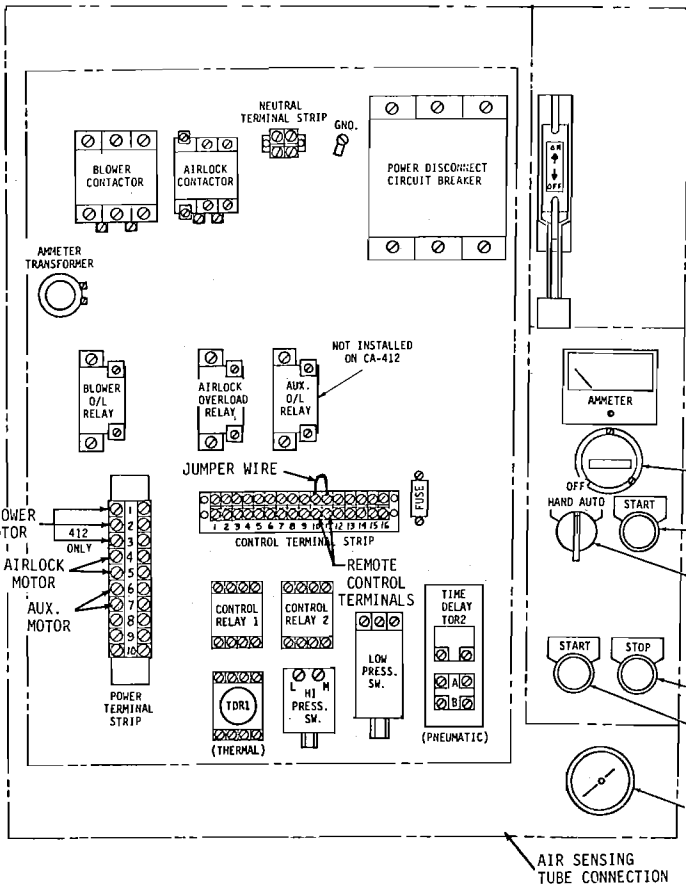

FIG. 6- SINGLE PHASE CONTROL PANEL LAYOUT
CONTROL PANEL - FIGURES 6 & 7
5. Overload relays are identified in Figs. 6 and 7; part numbers are reflected in Fig. 3.
6. See wiring schematics and Figs. 6 and 7 for control panel connection terminals that may be used to connect an auxiliary conveyor motor. Refer to Fig. 3; Electrical Specifications chart for maximum horsepower, current, and load. Also, refer to sub-heading "Connecting Auxiliary Motors".
CONNECTING FOR AUTO/REMOTE OPERATION - FIGURES 6 & 7
CONNECTING AUXILIARY MOTORS - FIGURES 6 & 7